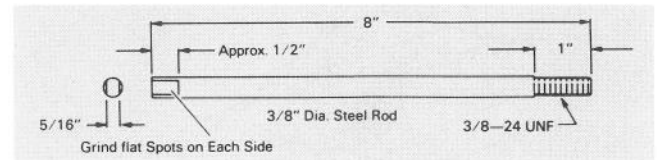

Figure 88
Tools Required: 9/16 inch Socket Wrench, 3/16 inch Allen Wrench, Small Screwdriver, Torque Wrench, Seal Protector, Alignment Studs (2) (Fig. 88), Petroleum Jelly.